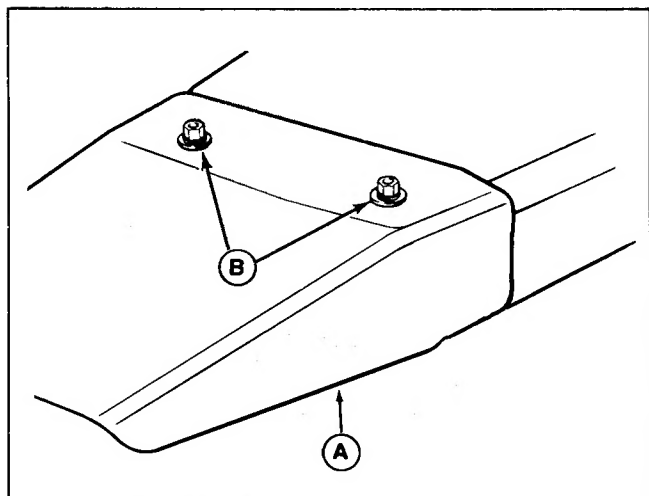

Figure 12.
2. Remove the mower deflector (A, figure 12) by removing two carriage bolts, lockwashers and nuts (B). Save this hardware for use when adaptor is removed from side discharge.